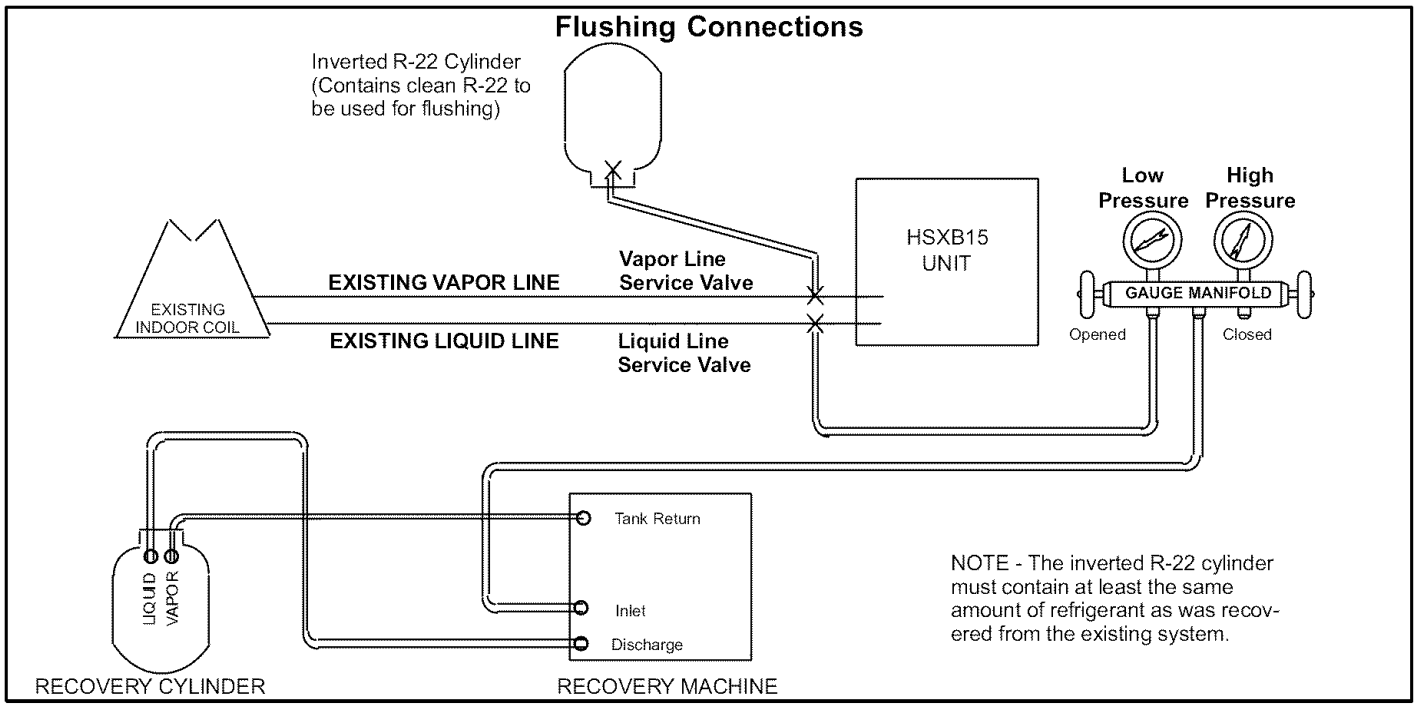

Figure 10
1. Remove existing HCFC-22 refrigerant using the appropriate procedure below (see figure 10):